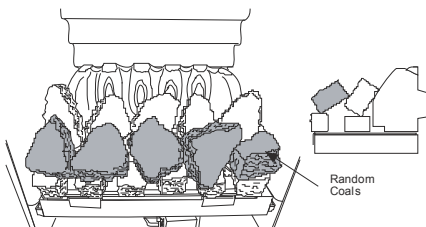
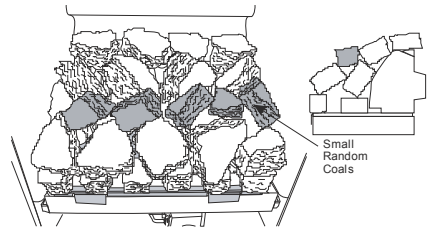

Figure 25
Figure 28
5. Continue laying the coals as shown in **Figure 25** to **Figure 28** ensuring that the coals are placed 'loosely'. Packing the coals too tightly together will result in a poor flame picture. The best results come from a 'loose' fuel build.